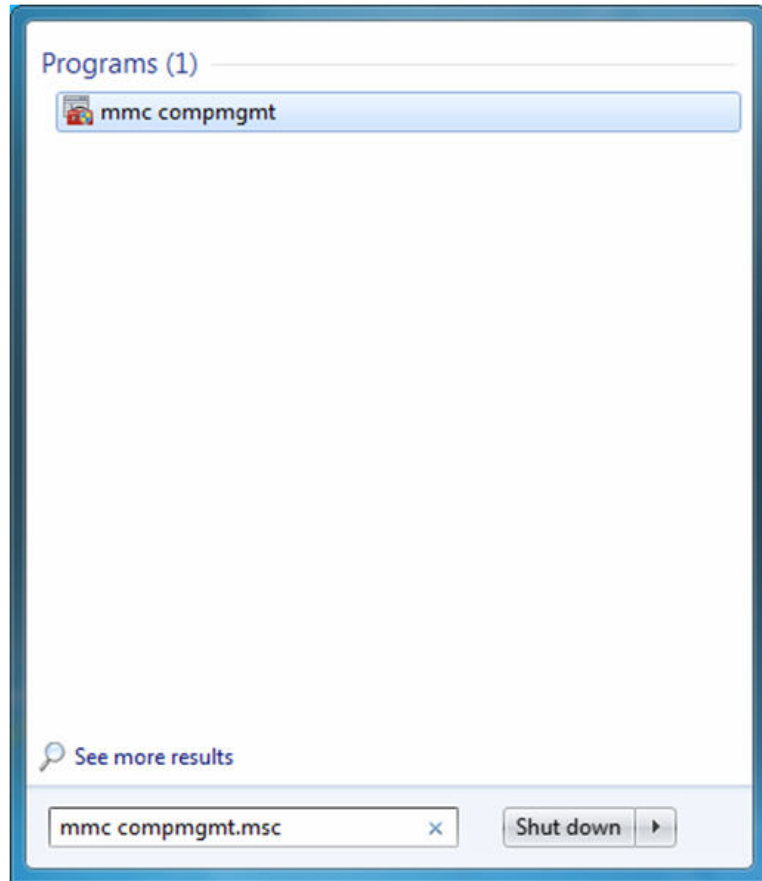

Figure 23. Windows Server 2008, Windows Server 2008 R2, and Windows 7 Search Box
1. Select the Start button. See Figure 23.